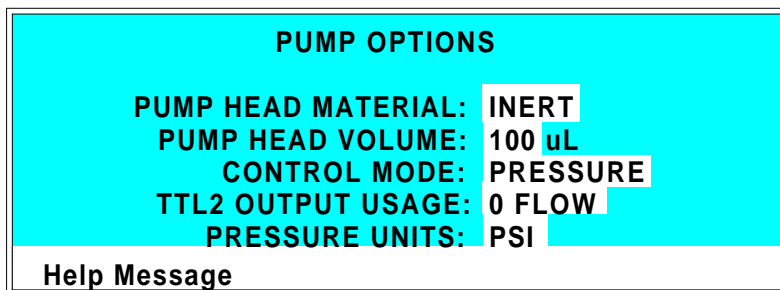

Figure B-6. Pump Options Screen
1. Go to the IP20 **PUMP OPTIONS** screen and set **TTL2 OUTPUT USAGE** to **0 FLOW** (see Figure B-6).